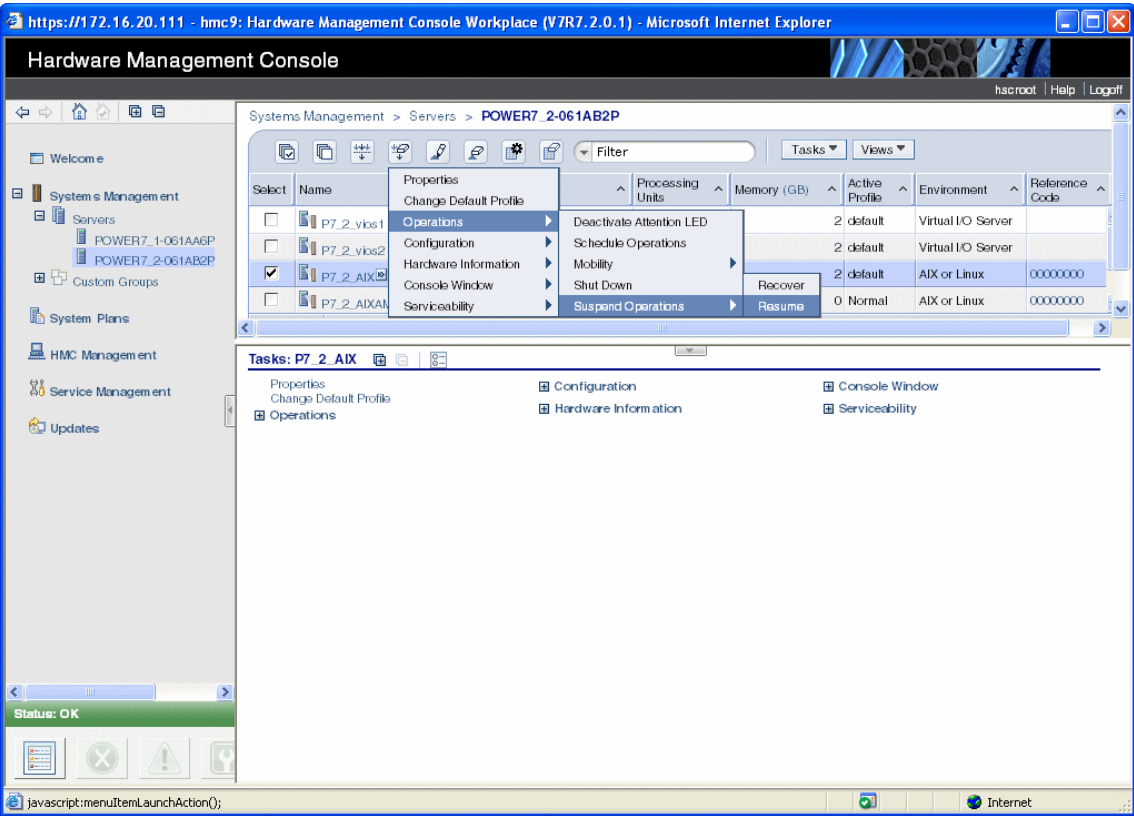

Figure 17-35 Partition resume menu
1. On the HMC, select the partition you want the suspend validation to be performed on, then select **Operations** → **Suspend Operations** → **Resume** as shown in Figure 17-35.
1. On the HMC, select the suspended partition you want to resume, then select **Operations** → **Suspend Operations** → **Resume** as shown in Figure 17-35 on page 665.